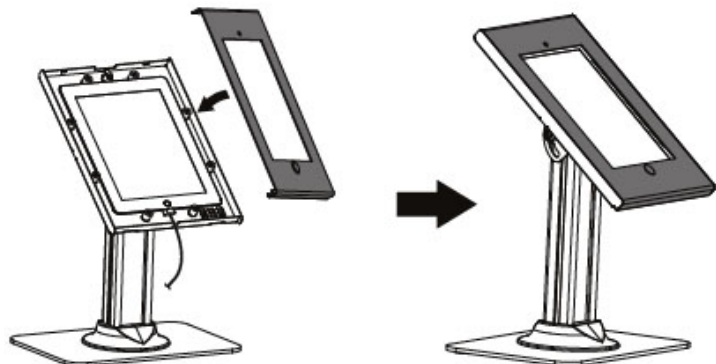

Figure 8
2. Align the slots on the bottom of the cover to the openings in the bottom of the holder, then pivot the cover onto the holder, see **Figure 8**.